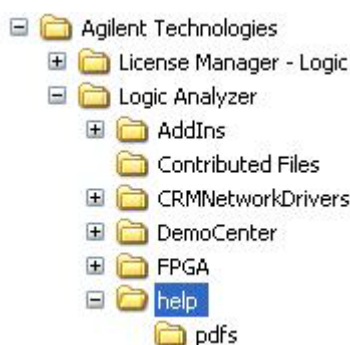

Figure 31 Location of User Documents
- **Agilent Logic and Protocol Analyzer Online Help** - This online help is accessible as a standalone help from the **help** folder displayed in the Figure 31 or from the Agilent Logic Analyzer GUI (as an integrated help). It describes how to configure, control, and use the module hardware to perform testing in various scenarios.